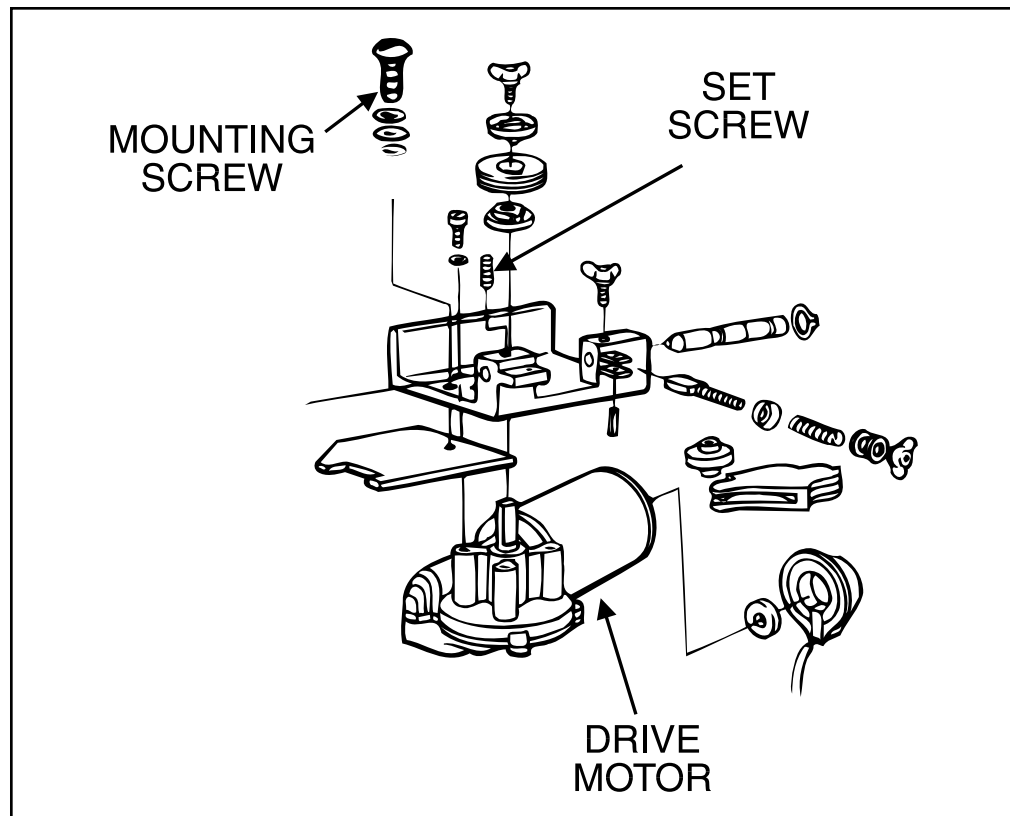

FIGURE F.13 - Wire Drive Assembly Removal
3. Remove the large mounting screw with a large slot head screwdriver located in front of the drive roll. See Figure F.13.